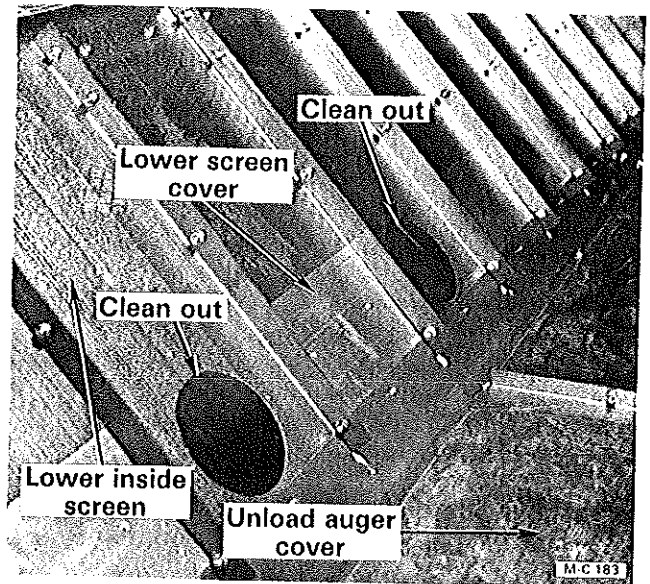

Figure 29
3. Open the dryer rear door and remove the heat chamber door in the floor of the heat chamber to gain access to the cooling chamber. Remove the unload auger covers, see Figure 29. Clean out the unload auger and grain metering rolls.